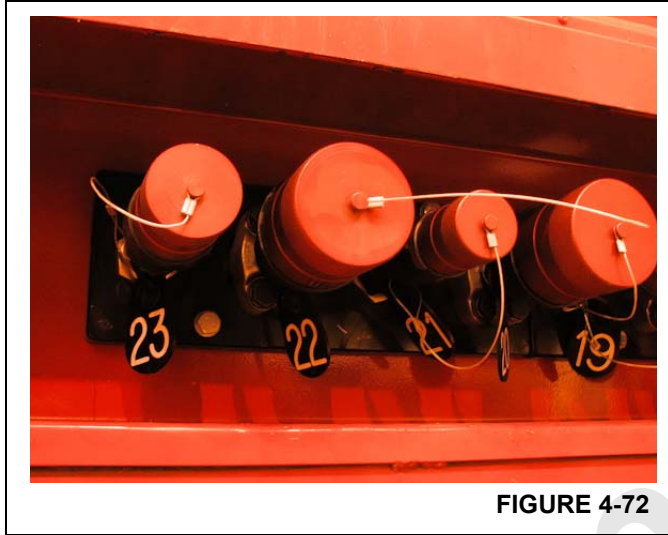

FIGURE 4-72
- Match the identification numbers on the hoses with the numbers on the power plant enclosure (Figure 4-72).